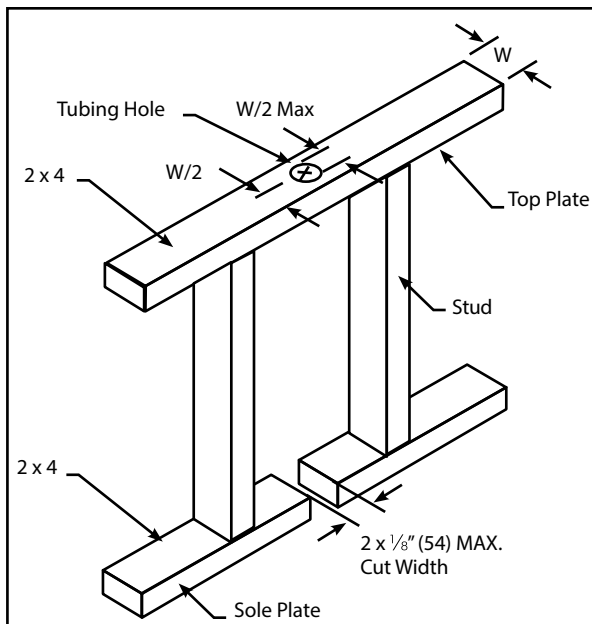

FIG. 4-6 Holes and Cuts in Top and Sole Plates
- In locations where Diamondback is installed through bored holes in joists, rafters, or wood members, holes shall be bored so that the edge of the hole is not less than 2" (51) from the nearest edge of the wood member. Where the distance cannot be maintained at any point, the tubing shall be protected by a Diamondback striker plate of the appropriate length and width installed in accordance with the striker plate instructions in this manual. The diameter of the bored holes shall be a minimum of 1/2" (13) larger than the outside diameter of the tubing jacket unless the hole size is in conflict with local building codes which shall prevail.
- The size of the hole drilled through **top plates, top frame members, and sole plates**, to allow the vertical passage of the tubing, shall not exceed  $\frac{1}{2}$  of the width of the member. The hole should be bored through the center of the member (See **FIG. 4-6 below**).
- Where sole plates are cut for tubing, the width of the cut shall be  $\frac{1}{2}$ " (13) larger than the outside diameter of the tubing jacket but not greater than  $2\frac{1}{8}$ " (54), and the tubing must be protected with a Diamondback striker plate of the appropriate length and width installed in accordance with this manual (See **FIG. 4-6**).